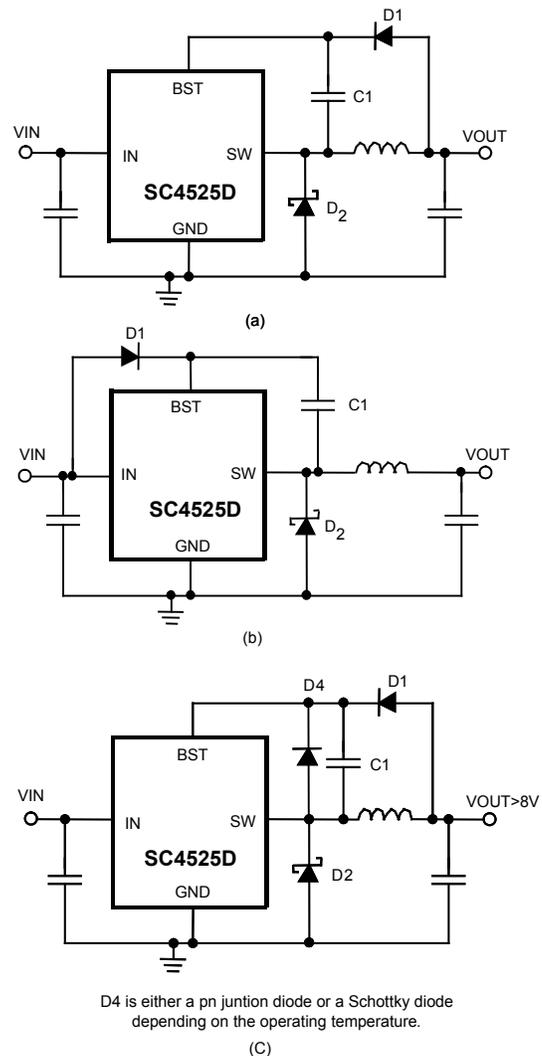

Figure 6. Methods of Bootstrapping the SC4525D
The BST-SW voltage is supplied by a bootstrap circuit powered from either the input or the output of the converter (Figure 6(a), 6(b) and 6(c)). To maximize efficiency, tie the bootstrap diode to the converter output if  $V_o > 2.5V$  as shown in Figure 6 (a). Since the bootstrap supply current is proportional to the converter load current, using a lower voltage to power the bootstrap circuit reduces driving loss (Equation (11), page 14) and improves efficiency.
For the bootstrap circuit, a fast switching PN diode (such as 1N4148 or 1N914) and a small ( $0.33\mu F - 0.47\mu F$ ) ceramic capacitor is sufficient for most applications. When bootstrapping from 2.5V to 3.0V output voltages, use a low forward drop Schottky diode (BAT-54 or similar) for  $D_1$ . If  $V_{OUT} > 8V$ , then a protection diode  $D_4$  between the SW and the BST pins will be required as shown in Figure 6 (c).  $D_4$  can be a small PN diode such as 1N4148 or 1N914 if the operating temperature does not exceed 85 °C. Use a small Schottky diode (BAT54 or similar) if the converter is to operate up to 125 °C.